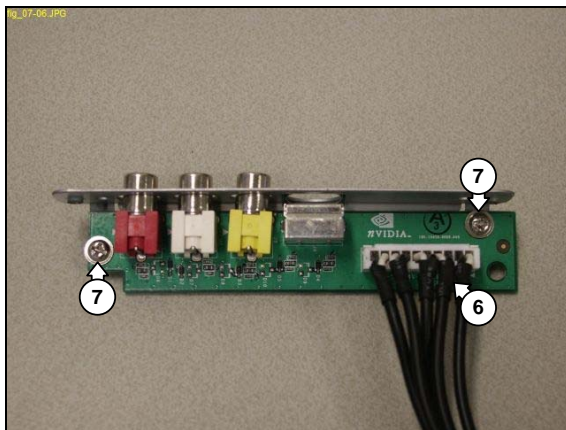

Figure 12.7-6
4. Disconnect the TV daughterboard cable (6). See Figure 12.7-6.
5. Remove the 2 mounting screws (7) from the TV daughterboard. See Figure 12.7-6.